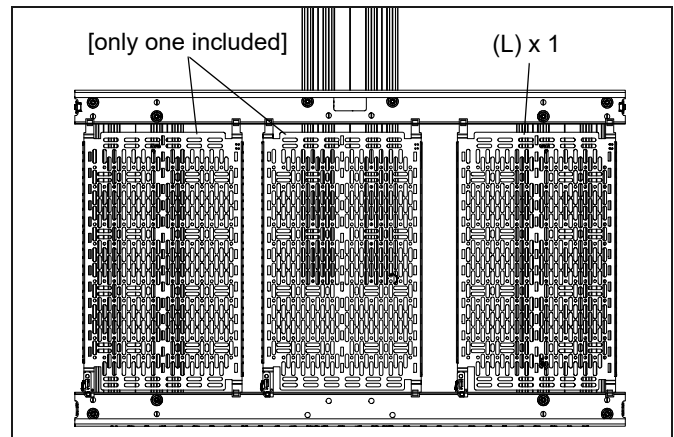

Figure 12
NOTE: Up to three storage panels (L) can be used simultaneously (only one included). (See Figure 12)